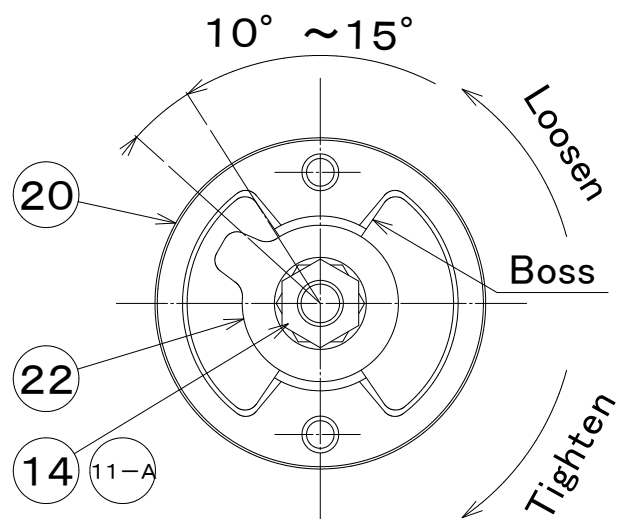

Figure 17 The angle of the dodecagon hole tongued washer
- (g) Turn the clutch (No.20) counterclockwise to disassemble. (See Figure 17 on page 18)